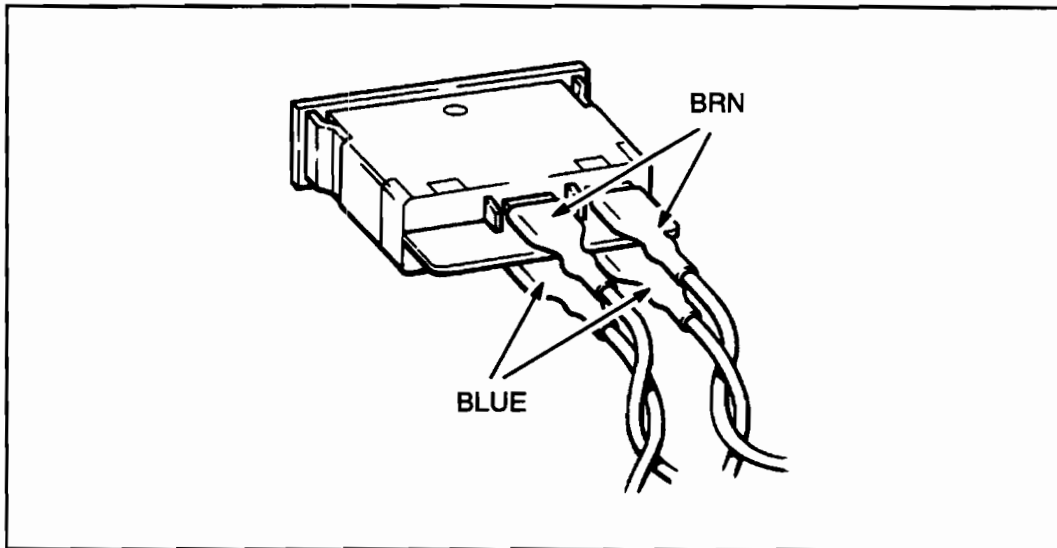

Figure 6-15. Power Switch Wiring
- Carefully pull the switch out of the switch cover and disconnect the wires. See Figure 6-15 for wire connections when replacing the switch.